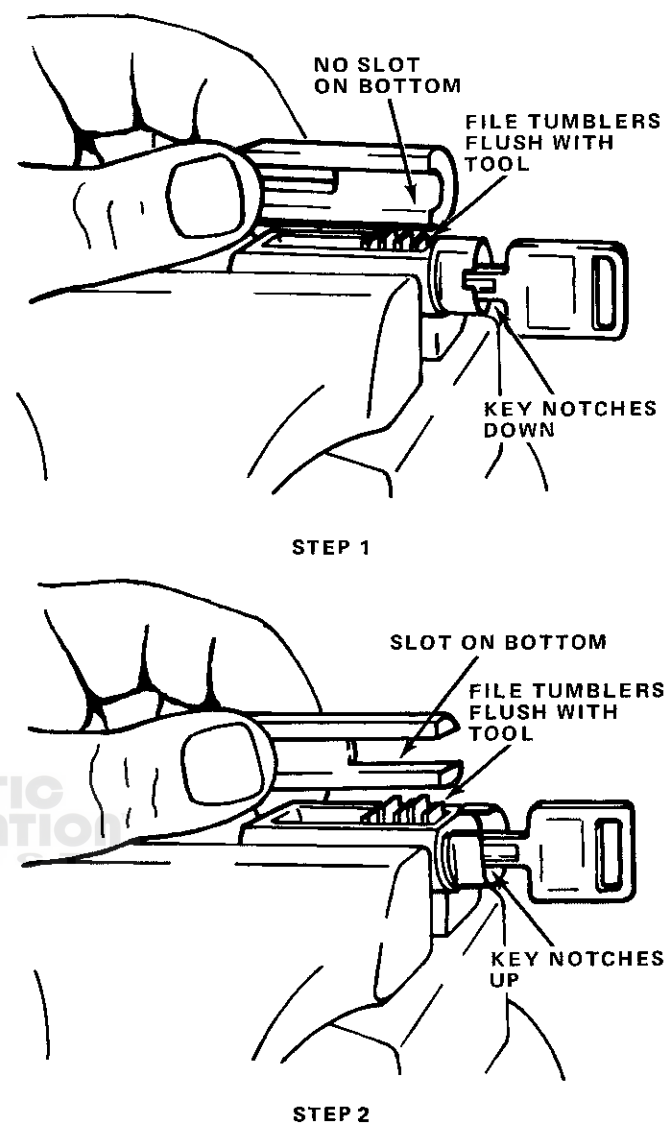

Fig. 3J-3 Filing Lock Tumblers
- (1) Remove lock cylinder from door.
- (2) Remove dust cover from original lock housing and remove lock cylinder and discard.
- (3) Insert original key into new uncoded service lock cylinder.
- (4) Press cylinder into special Door Cylinder Lock Tumbler Filing Fixture, tool J-22977, with notched side of key up and long tumbler in slot (fig. 3J-3).
- (5) Hold filing fixture in vise and file tumblers flush with flat side of fixture. Use a standard 5/8-inch, double-cut bastard file. Finish filing with smooth mill file.
- (6) Remove lock cylinder from fixture and insert cylinder into opposite end of fixture with notched side of key down (fig. 3J-3).
- (7) File tumblers flush with flat side of fixture.
- (8) Insert new lock cylinder into lock housing.
- (9) Install new dust cap and crimp ends of cap over lock housing.
- (10) Install lock cylinder in door.
- (3) Remove screws from door lock remote control (fig. 3J-2). Push control in and lower to bottom of door.
- (4) Disconnect remote control arm from door latch and remove remote control assembly through access hole at bottom of door.
- (5) Remove screws attaching door latch to door panel using Torx Bit Tool J-25359-02.
- (6) Push door latch in and turn it 90° to free it from lock lever rod and remove through lower access hole.